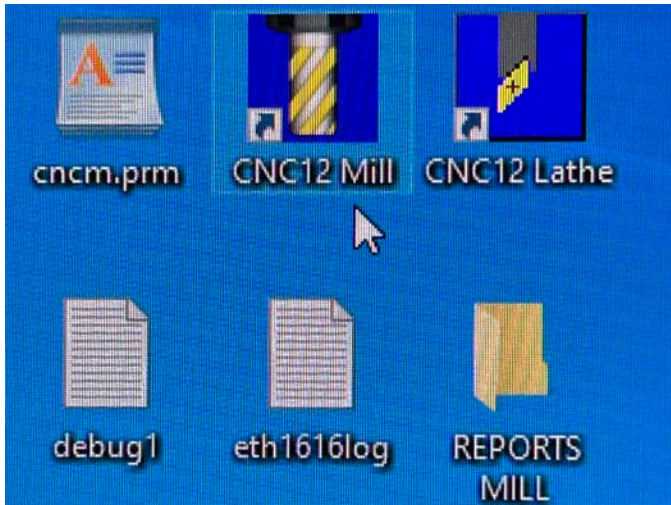

FIGURE 22
17. Then open the CNC12 Mill software again (see Figure 22).